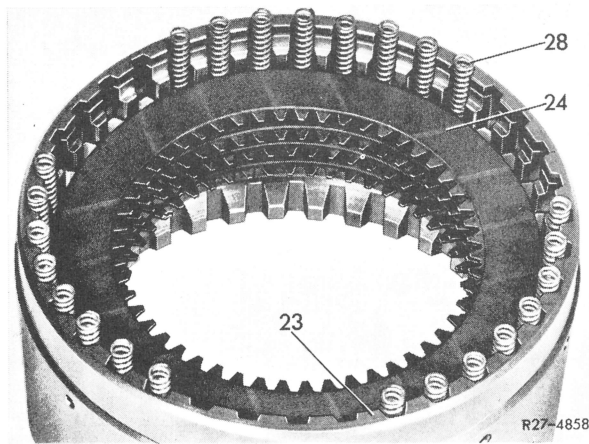

Fig. 2
3 Remove all return springs (28) and plate assembly (24) from brake drum (23) (Fig. 2).